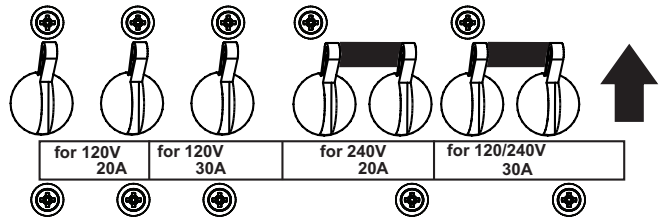

Figure 22. GFCI/AUX. Circuit Breakers (ON)
- Place **GFCI** and **AUX.** circuit breakers (Figure 22) in the **ON** position.